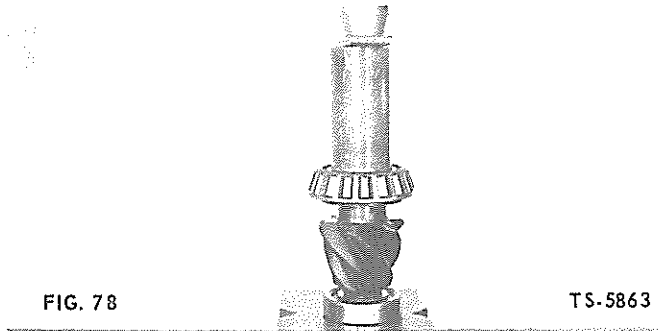

FIG. 78
3. Press center pinion bearing cone onto pinion shaft (Fig. 78).